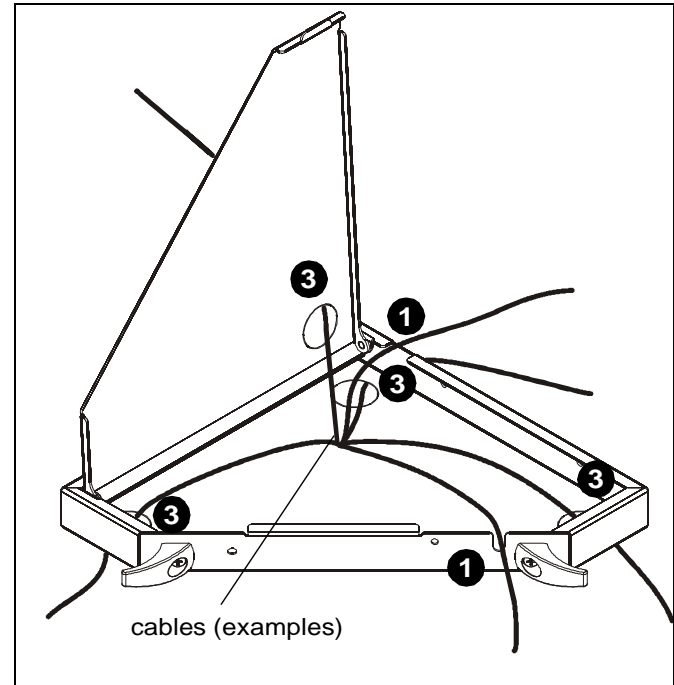

Figure 6
1. Route cables through drawer openings as desired. (See Figure 6)
3. Route cables through removed knockout holes as desired. (See Figure 6)